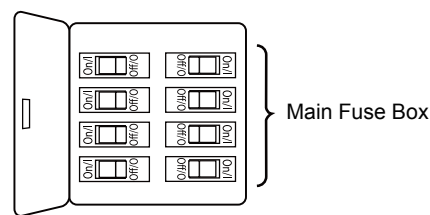

Figure 1
Your new ceiling fan will require a grounded electrical supply line of 120 volts AC, 60 HZ, 15 Amp Circuit. Electrical code requires use of a fan-rated outlet box to support the extra weight and motion associated with a ceiling fan. A fan-rated box will be labeled as such and typically supports up to a 70lb ceiling fan. Fan-Rated Outlet Boxes vary in ratings and design. Ensure the ratings of your ceiling fan outlet box meet the requirements for the ceiling fan being installed. Figure 1, Figure 2 and Figure 3 depicts different structural configurations that may be used for mounting the outlet box.
Low profile box (Figure 1)
To avoid possible electrical shock, be sure electricity is turned off at the main fuse box before hanging and wiring. (Figure 1)
1. Align the wide tab of motor assembly to the wide notch of ceiling bracket. Carefully secure the motor housing onto the mounting slots on ceiling bracket by twisting in a clockwise direction. Be sure the receiver and all wiring are tucked into the motor housing and is not pinched. Once the motor assembly is flush with your ceiling, replace the previously removed screws and securely tighten all three screws. (Figure 1)
1. Slide blades through slots in motor housing and attach to the motor hub using the 3/16"-24 truss head screw with spring washer/flat washer. Make sure the screws securing the blades to the motor hub are tight and are properly seated. (Figure 1)
- ☐ 1. Remove one of the three screws in the support bracket at the bottom of the motor assembly. Retain the screw for later and slightly loosen the remaining two screws. (Figure 1)
- ☐ **1. IMPORTANT:** Using a full range dimmer switch (not included) to control fan speed will damage the fan. To reduce the risk of fire or electrical shock, do not use a full range dimmer switch to control the fan speed. (Figure 1)